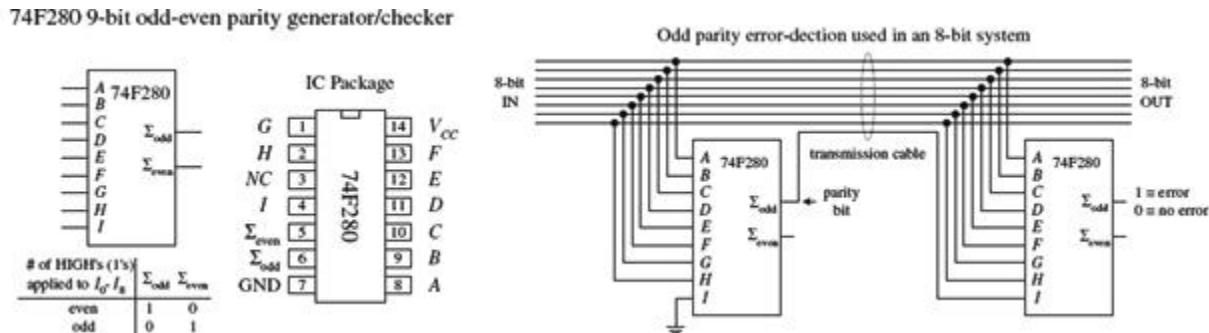

FIGURE 12.52
If you want to avoid building parity generators and checkers from scratch, use a parity generator/checker IC like the 74F280 9-bit odd-even parity generator/checker shown in Fig. 12.52. To make a complete error-detection system, two 74F280s are used: one acts as the parity generator, and the other acts as the parity checker. The generator's inputs A through H are connected to the eight data lines of the transmitting portion of the circuit. The ninth input (I) is grounded when the device is used as a generator. If you want to create an odd-parity generator, you tap the Σ_{odd} output; for even parity, you tap Σ_{even} . The 74F280 checker taps the main line at the receiving end and also accepts the parity bit line at input I. Figure